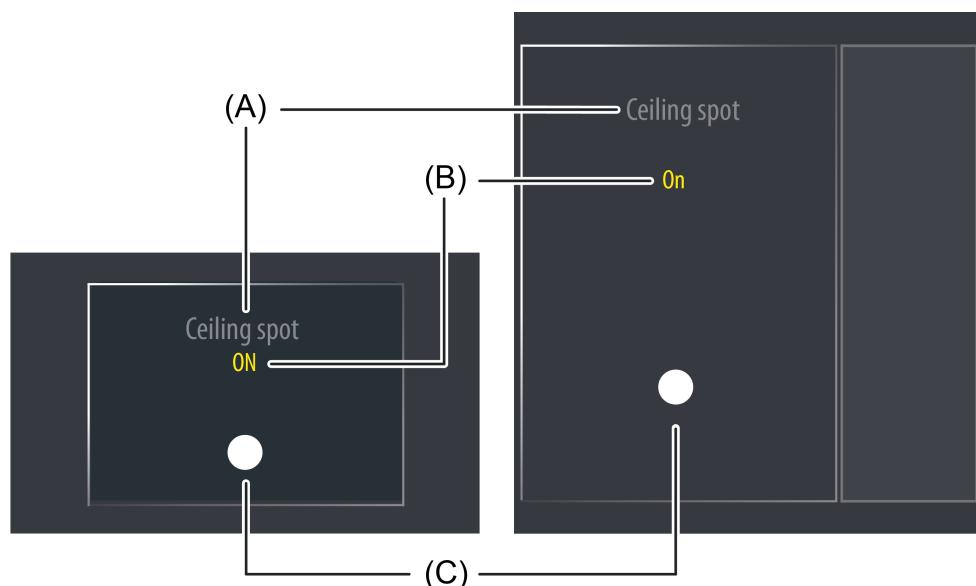

Figure 50: Example of a display element of the KNX function "Collective feedback"
The display area contains different display elements (figure 50) that are influenced by parameters. A name can be assigned to each KNX function in the configuration software (A). This text name is centred in the display element for display whereby controllable KNX functions are identified for the user (e.g. "ceiling spot"). In addition, a status text (B) is displayed below the name, which visualises different texts (e.g. "Off" / "On") in the display depending on the object value of the masked collective feedback. In the configuration software the texts for the states "On", "Off" and "Invalid" can be defined separately from each other. After a device reset, the "Invalid" state is displayed until a feedback object value of the status text is received.